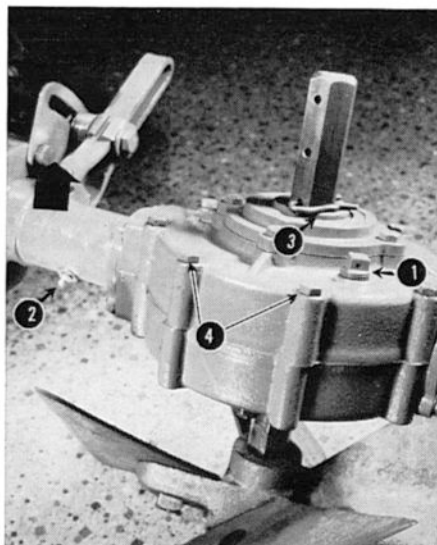

Figure 25
The Rotary Plow is attached to the Tractor by four bolts. Two bolts must be used to attach the Angle Adjusting Bracket, shown by the arrow in Figure 25.
Add oil by removing the Oil Filler Plug, 1 in Figure 25.
Use an occasional shot of Mobilgrease MP in the swivel casting grease fitting, 2 in Figure 25.
Use the pin or clip, 3 in Figure 25, in the Hex Shaft for initial cutting depth adjustment. The higher on the Shaft the Pin is inserted, the lower the depth of cut and vice versa. Ordinarily, the Pin is inserted in the topmost hole for plowing and in the bottom hole for transporting.
The optional (at no extra cost) Dirt Shield is attached to the top of the Gear Housing by removing the bolts, 4 in Figure 25, inserting them through the Shield, and replacing in the Gear Housing. You can use the Dirt Shield to direct the throw of the dirt, by bending it up or down.
1. Leave the Plow Angle Adjusting Assembly (arrow in Figure 25) attached.